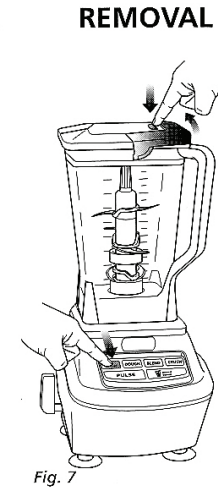
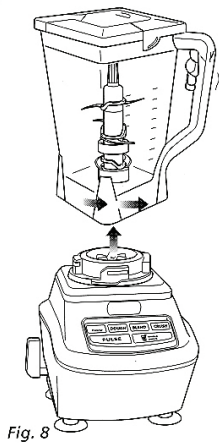

Fig. 7
Fig. 8
- 10 When you have reached your desired consistency, stop the appliance by pressing the power button (Ⓛ) and wait for the attachment to stop turning. (Fig. 7)
- 11 To remove the lid, press the release button on the lid, pull the lid handle up to a 90° angle and lift the lid off. Turn the pitcher counter clockwise and then lift off the base. (Fig. 7, Fig. 8)